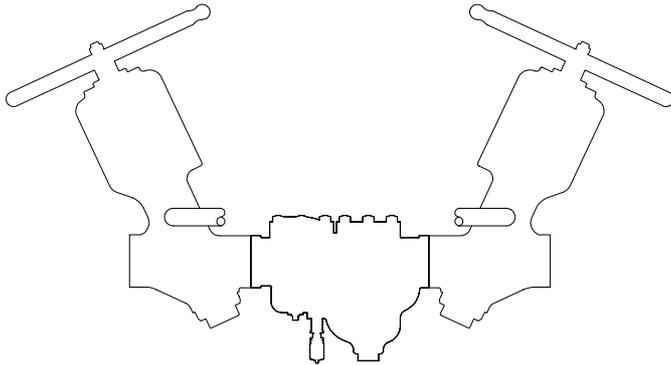
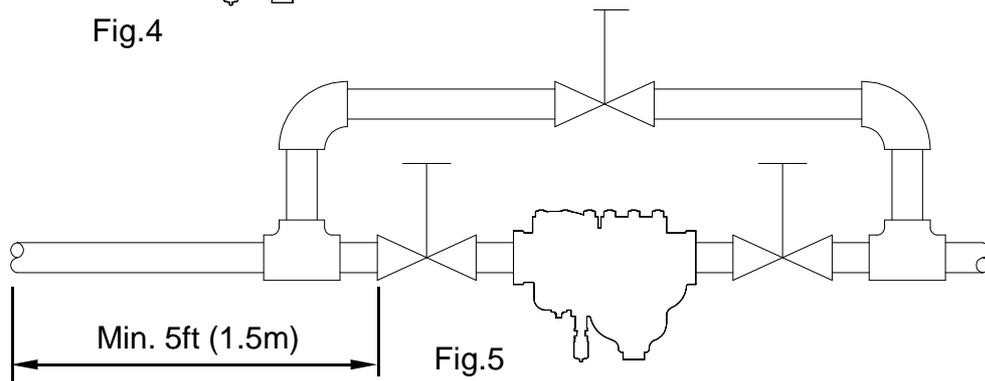

Fig.4
Fig.5
- d. Where a bypass is required the piping king unit (Fig. 4) should be used. This will provide considerable savings in space and the cost of installation compared with the standard bypass construction (Fig. 5). The piping king unit allows in line maintenance.